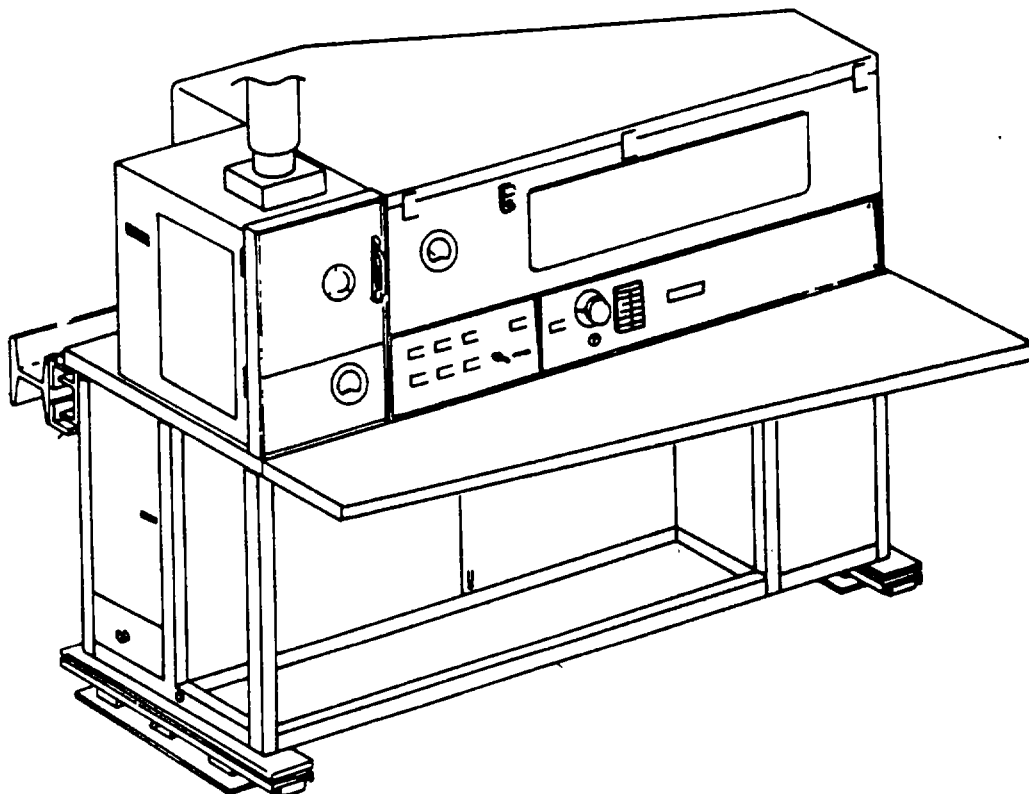

Figure 1-8. Fluid Analysis Spectrometer
a. *The fluid analysis spectrometer display (A/E35U-3A) (Figure 1-8)* is a 1-meter emission spectrometer with an LED liquid readout specifically designed for sample oil analysis. It has a console-type equipment cabinet permitting the operator to carry out the routine procedures of analysis while seated at one location. Except for the main power circuit breaker control, all operating controls are conveniently within the reach of the operator while in a seated position. Panels have been designed to permit quick removal and provide access for performing required maintenance. The spectrometer equipment includes personnel safety features such as safety interlocks, venting of noxious fumes, and protection from ultraviolet rays. Equipment protective features include circuit breakers, fuse, interlocks, and venting. Electromagnetic interference is controlled by RFI filters and proper grounding of all electrical components within the instrument, while critical items have been individually shielded. The sample excitation chamber is interlocked to protect the operator from high intensity ultraviolet light, shock from the carbon rod/disk arc (22,000 volts peak), and exposure to noxious or flammable fumes while sample analysis is in progress. During normal operation, the carbon arc will totally "burn" the sample, leaving no residual flammable fumes or vapors. The chamber venting is adequate to purge the chamber of all noxious or flammable/combustible fumes. The spectrometer is a preventive maintenance tool used to determine the type and amount of wear metals in lubrication oil samples of engines/transmissions and in fluids of hydraulic equipment. The spectrometer is capable of detecting and measuring the concentration of the following elements: